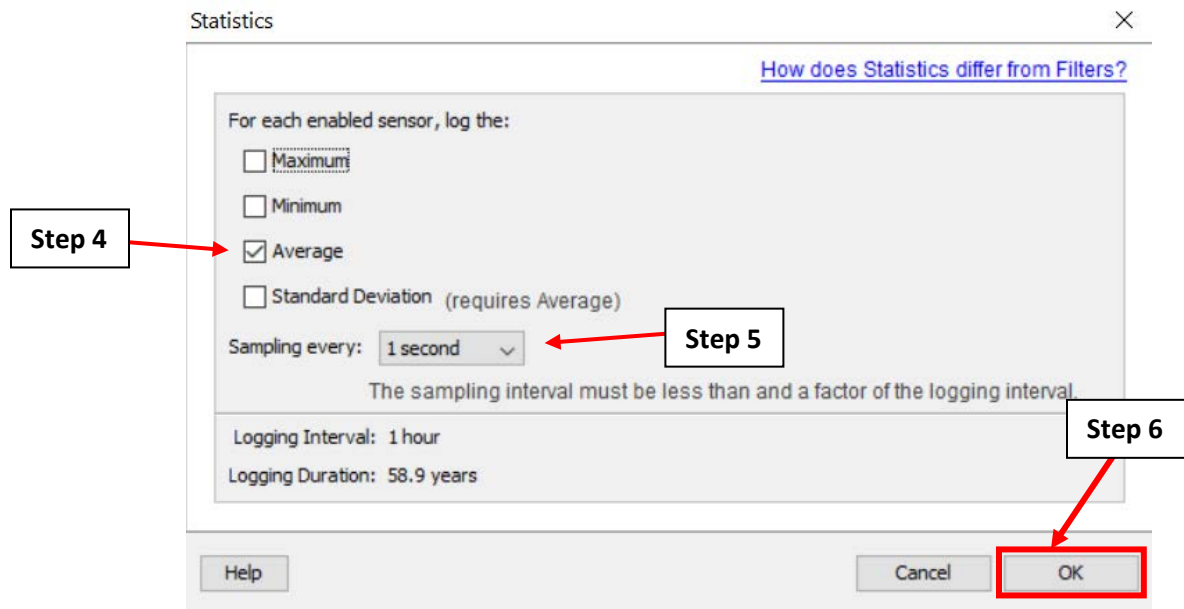

Figure A.8.6: Setting the sampling rate in the Statistics pop-up window.
4. Following Figure A.8.6, select the checkbox labeled “Average” and uncheck the other boxes.